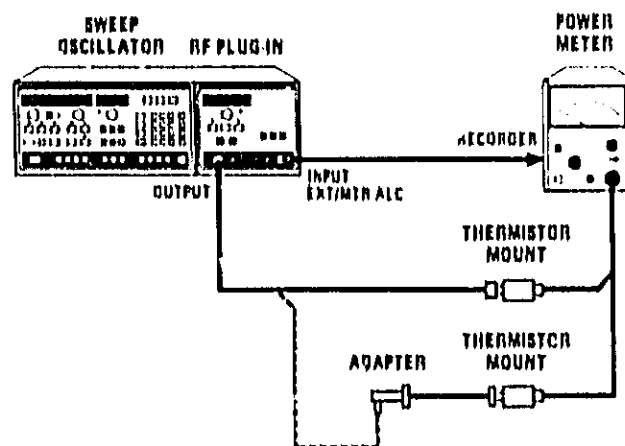

Figure 4-3. Power Meter Leveling Test Setup (Using HP 432A Power Meter)
14. Connect equipment as shown in Figure 4-3 using HP 8478B Thermistor Mount.